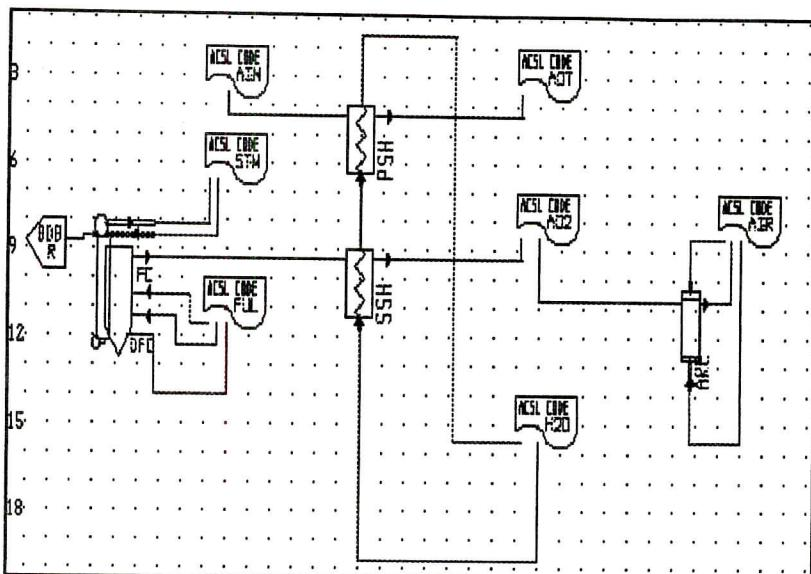

Figure 6: Code as Boundary Conditions
2. Figure 6 shows the ACSL CODE icon connected to the air/gas paths of DRUMNC, SPRHTR, and AIRHX. For example, the CODE icon with ID = 'AIN' connects to the gas entering (GE) port of the primary superheater, ID = 'PSH'. Since the 'EN' port of 'AIN' is used, the flow stream identifier for the gas flow entering 'PSH' will be 'AINE' (AIN + E : the 'E' comes from the first letter of the port 'EN' on 'AIN'.)